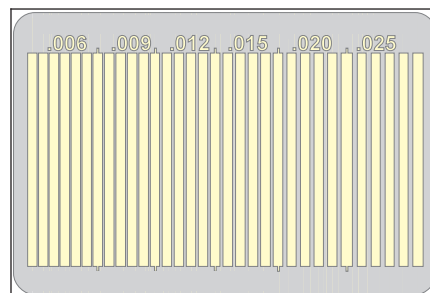

Figure 2 Replacement conductors with dry film adhesive backing.
7. Select a replacement conductor with film adhesive backing that most closely matches the size of the conductor to be replaced. If a special size or shape is needed they can be custom fabricated. (See Figure 2.)